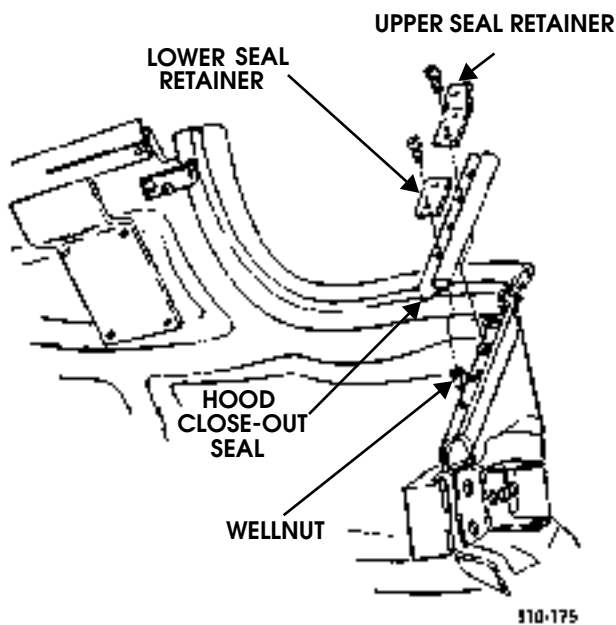

Figure 10-97: Right Hood Close-Out Seal Location
1. Remove two screws and upper seal retainer from close-out seal and hood (Figure 10-97).
1. Secure close-out seal and lower seal retainer to hood with two screws (Figure 10-97).